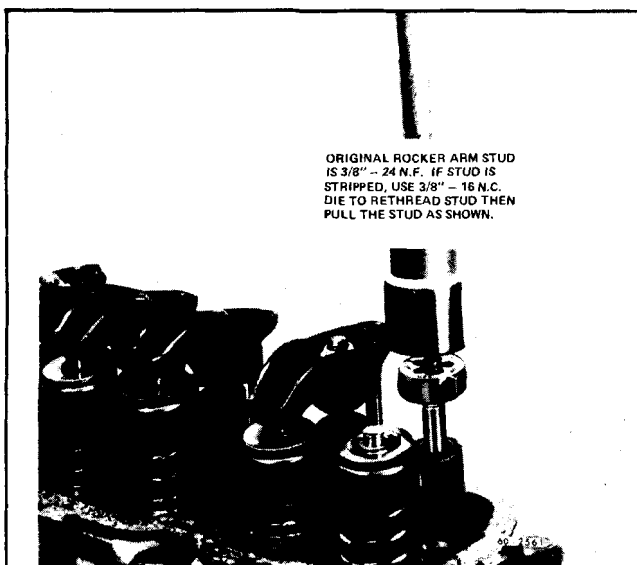
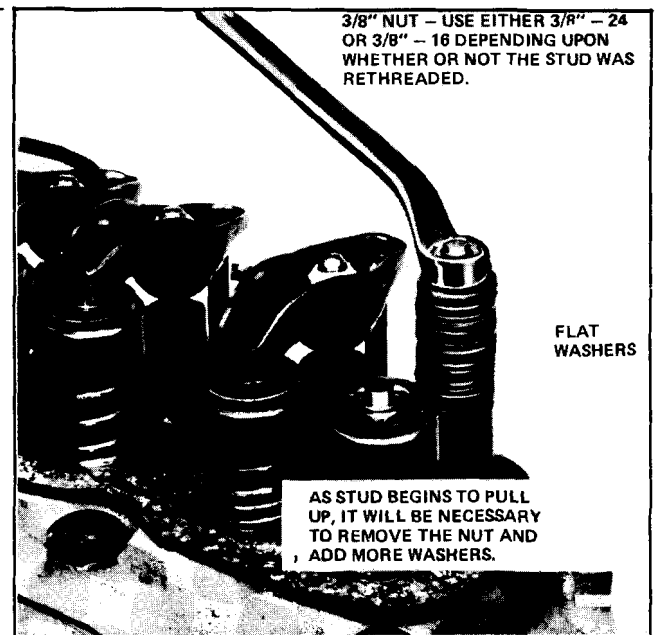

Fig. 6-113 Rethreading Stripped Rocker Arm Stud
Fig. 6-114 Removing Rocker Arm Stud
4. 307 Engine - If rocker arm is stripped, refer to Fig. 6-113 for rethreading and Fig. 6-114 for removing rocker arm stud.